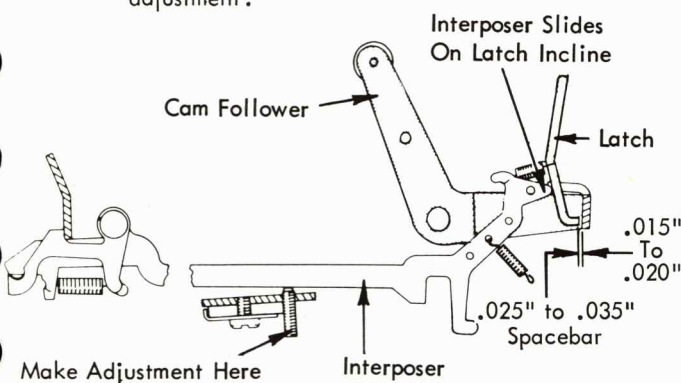

FIGURE 116. Interposer Adjusting Screw
4. Interposer Adjusting Screws - Adjust the interposer adjusting screws so that a front to rear clearance of .015" to .020" exists between all the operational latches and their respective cam followers, with the exception of the spacebar latch. The spacebar latch should have a clearance of .025" to .035" (Fig. 116).
NOTE: The operational interposer springs should be placed in the center hole at the rear of the interposer (Fig. 116).